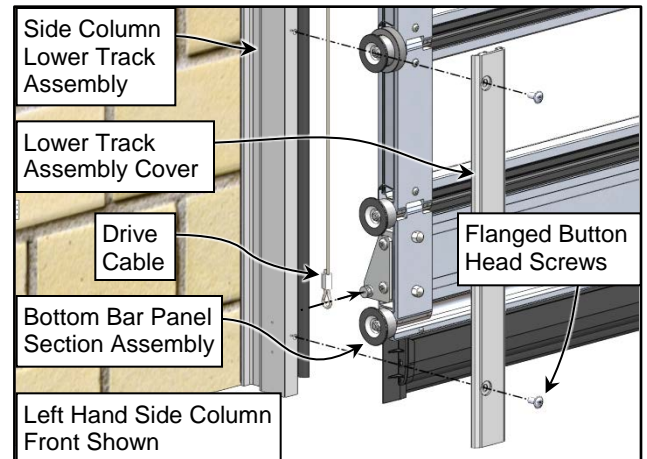
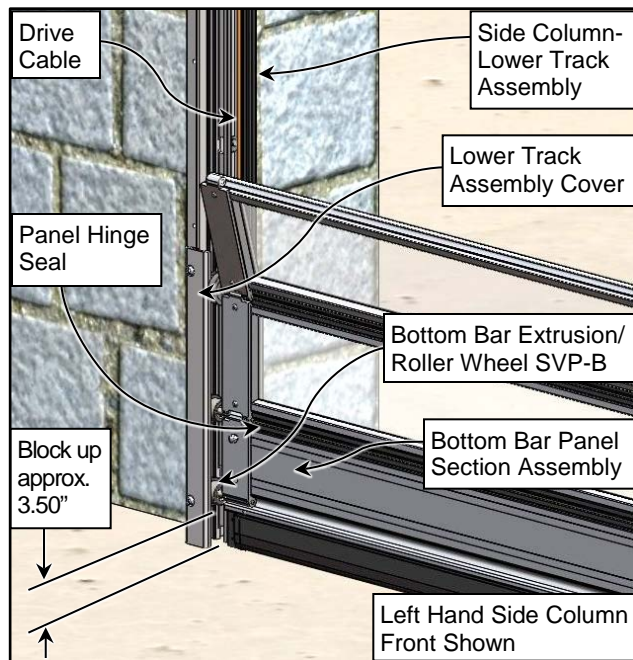
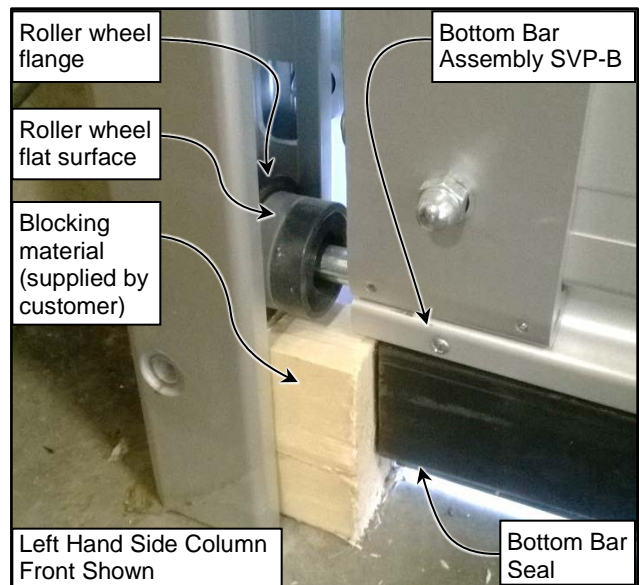

Figure 31
Figure 32
Figure 33
2. Install the bottom Lower Track Assembly Covers on the Lower Track Assemblies as shown. (See Figure 31)
3. Locate and identify the bottom bar section for the panel assembly and the drive cables. Install and orient the drive cables onto the door panel section as shown. The cables must always be between the door panel and the roller wheels and on the rear side of the door panel assembly. (See Figure 31)
4. Orient and place the bottom bar panel section into the bottom section of the lower track assembly as shown. This panel section must be labeled 1 for the 1st panel section. (See Figure 31 and Figure 32)
5. Inside the track block up the bottom bar approximately 3.50" as shown on both sides. Blocks should contact only the flat surface of the roller wheel, not the flange portion or the panel bottom. The bottom seal should just be touching the floor enough to create an adequate seal. The methods shown are ways we would suggest. (See Figure 32, and Figure 33)